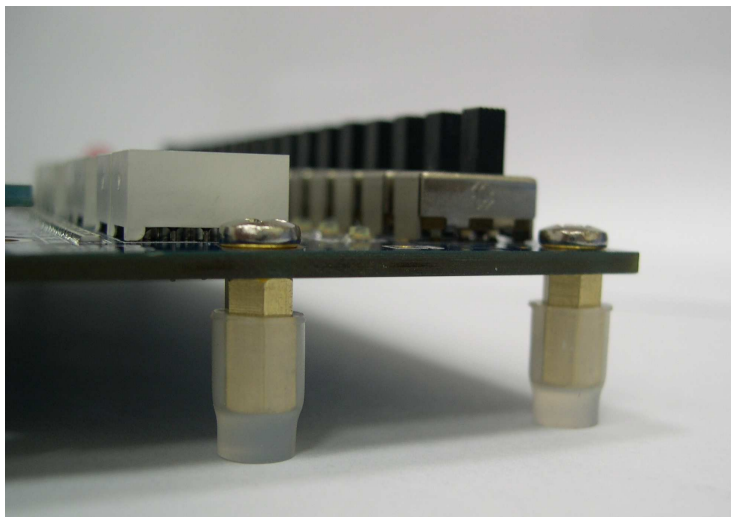

Figure 1.2. The feet for the DE1 board.
- Assemble a rubber (silicon) cover, as shown in Figure 1.2, for each of the six copper stands on the DE1 board